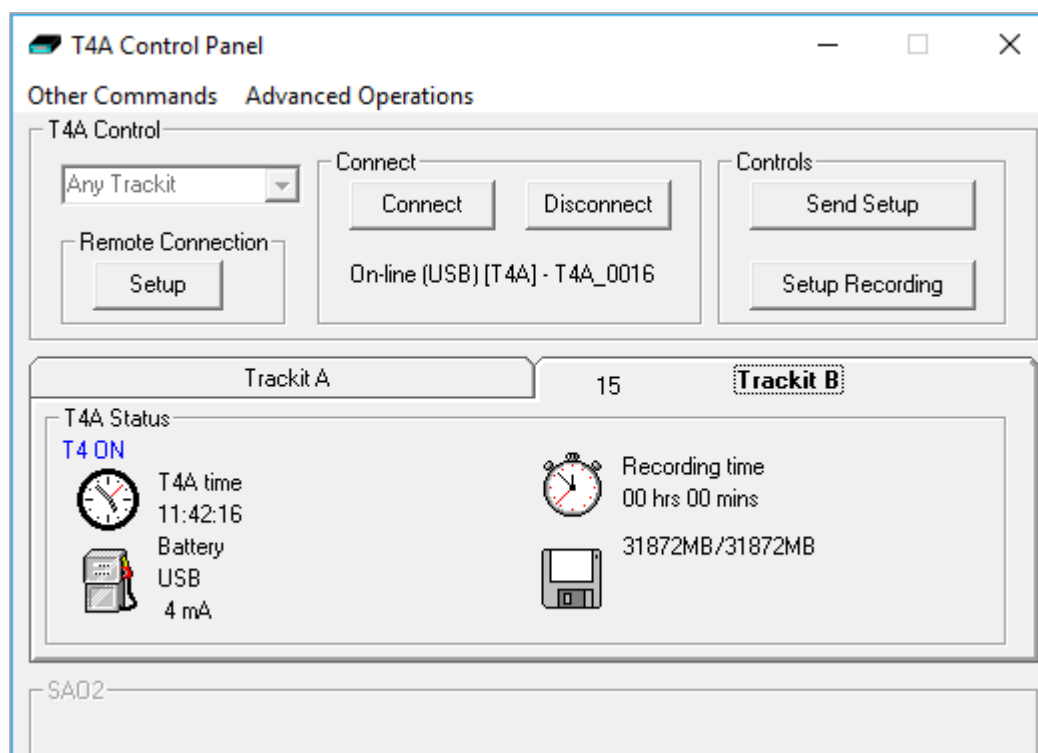

Figure 10: Trackit Control Panel "Status B"
Further status information is available on the 2nd tab (“Trackit B”). This includes the amplifier’s time, Battery capacity, Recording time and SD card total and remaining capacity in (Megabytes (MB)) (see Figure 10).